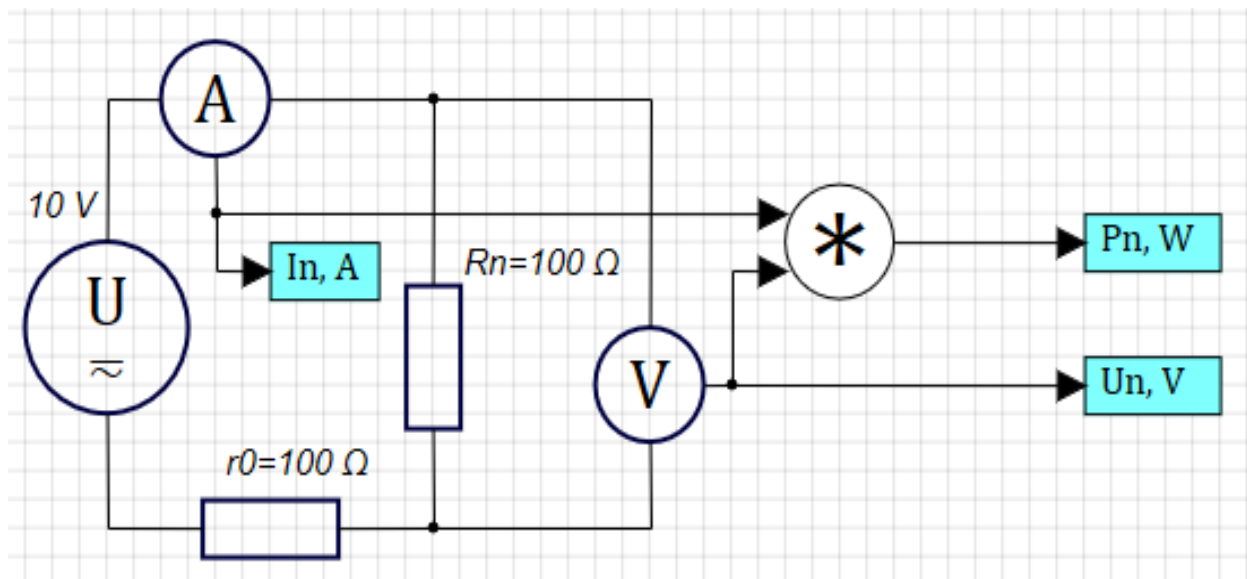

Figure 2.1
1. Assemble a DC circuit in the SimInTech system project window (Figure 2.1). *In*, A
For the **Output Port** blocks, set the **Values of the submodel port** names in accordance with Figure 2.1 by double-clicking on them.